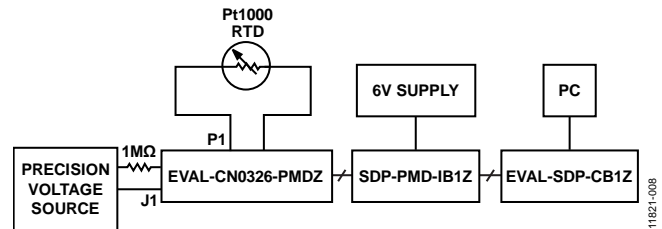
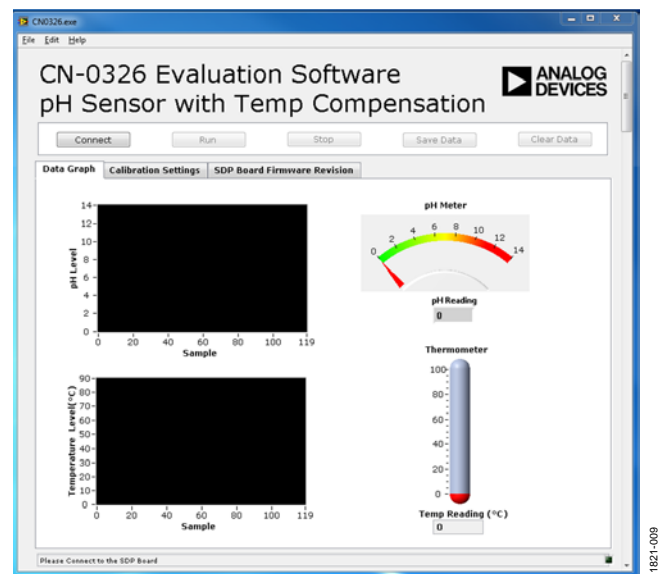

Figure 8. pH Sensor Block Diagram Test Set-up
Figure 9. Evaluation Software Main Window
3. Before running the program shown in Figure 9, connect the pH probe at the BNC terminal and the RTD sensor to the terminal jack of the EVAL-CN0326-PMDZ.
4. After all the peripherals and power supply are all connected and turned on, click **Connect** on the GUI shown in Figure 9. When the evaluation system is successfully detected by the PC, the EVAL-CN0326-PMDZ circuit board can now be evaluated using the software shown in Figure 9.
The functional block diagram of the test set-up is shown in Figure 8. The test set-up should be connected as shown. A screenshot of the main software window is shown in Figure 9.
Agilent E3631A and Yokogawa GS200 precision voltage supplies were used to simulate the sensor output. The negative terminal of the Yokogawa is connected to the negative terminal of the ADC for the pH sensor. The positive terminal is in series with the resistor, which is connected to the positive terminal of the ADC as shown in Figure 8. The Yokogawa generates the ± 420 mV, which then simulates the pH sensor output, and the series resistor is then varied to simulate the impedance of the glass electrode of the pH probe as shown in Figure 8.
The CN-0326 Evaluation Software is used to capture the data from the EVAL-CN0326-PMDZ circuit board using the setup seen in Figure 8.